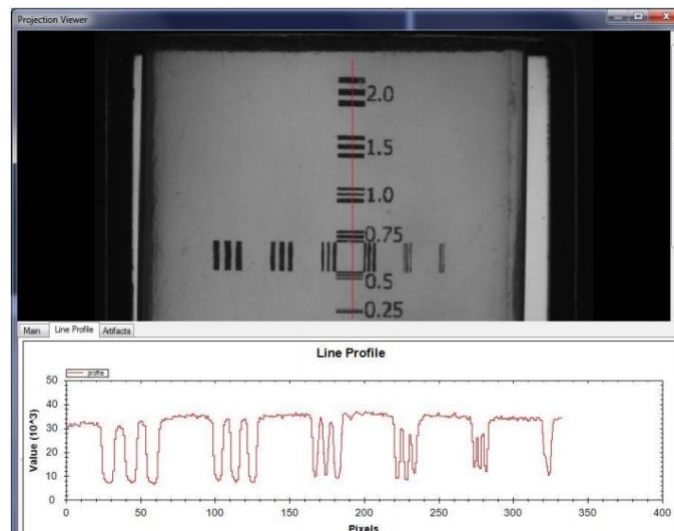

Figure 2: Line Profile through 2D snapshot.
9. Select the Line Profile tool. Draw a line which intersects the line pairs (Figure 2). Right click on the Line Profile: Export Data as CSV file (LP 2D Profile). Close the tool.